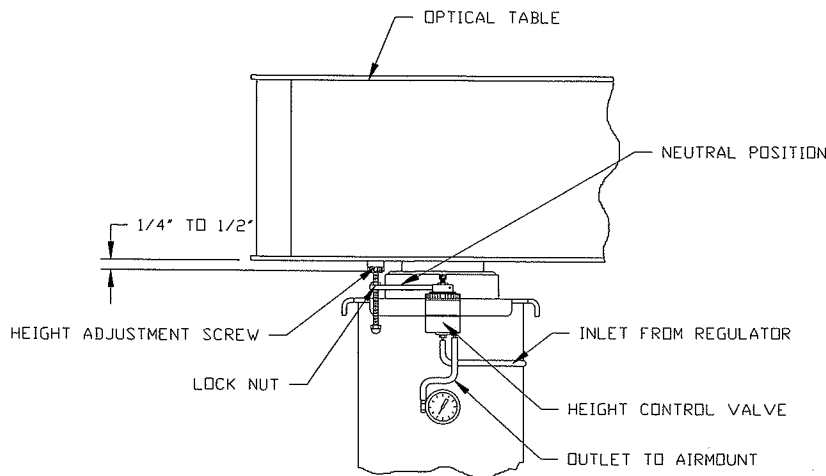

Figure 5. Vibra-Level Valve Adjustment.
9. When the Tabletop is completely “floating” adjust each Valve Adjustment Screw so that the Tabletop is floating approximately $1/4$ to $1/2$ of an inch (as shown in Figure 5).